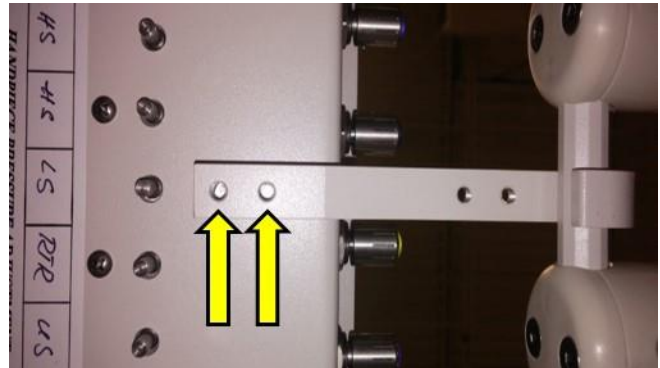

Fig. 2
4. Place Finger Bracket on Holder Bar and align with underside of baseplate. Mark positions of screw holes using felt-tip pen or pencil. Using 10/32" bit, drill holes where marked through baseplate. (Fig. 2)